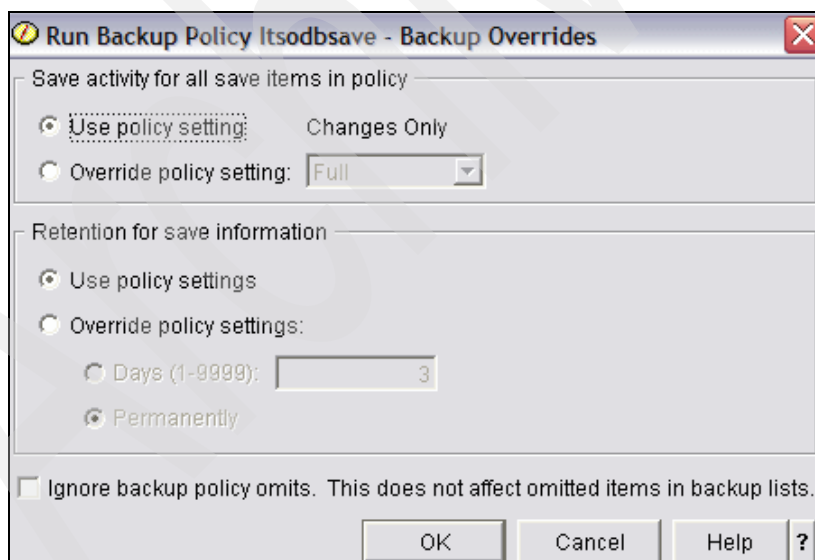

Figure 7-55 BRMS running the backup, overrides
3. The window that appears, shown in Figure 7-55, asks if you want to perform any overrides.
Since this is not required in this scenario, click **OK**, as shown in Figure 7-55.